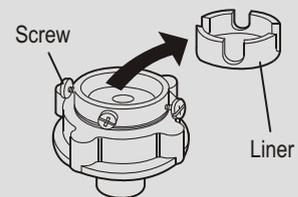

Figure 3
3、 Stretch out the drain hose to the right of the frame from the groove. Fasten it in the base frame with the drain hose support, and fasten the screws. Then hang the hook in the drain hose, and hang the drain hose in the hole of the cabinet. (Figure 3)
(Figure 3)